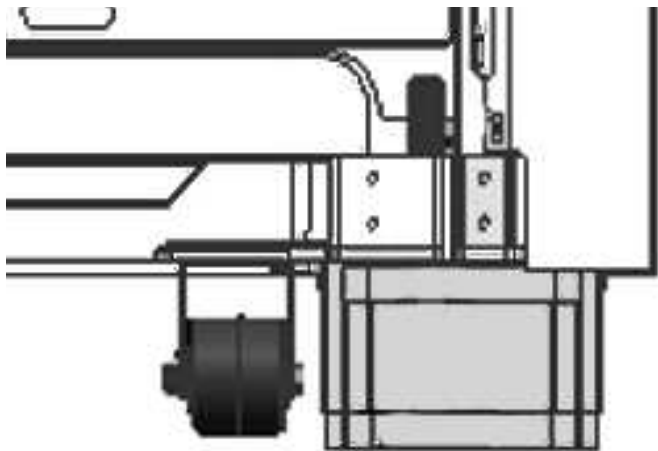

FIGURE 26: LEG COVERS INSTALLED
4. Slide the outer sleeve up. The mating part has dimples (that you cannot see) for which the holes of the larger sleeve should seize. You should feel a definitive click, letting you know that the apparatus has been mounted to the unit (*Figure 26*).